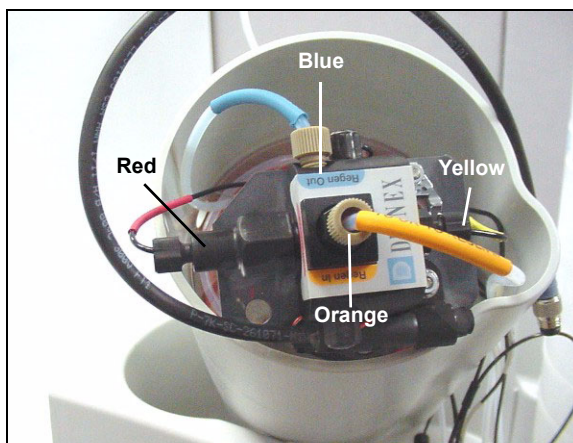

Figure 30. Plumbed CR-TC
4. With the CR-TC oriented as shown in Figure 30, connect the lines to the corresponding ports on the CR-TC. Match the color coded labels on the EGC holder lines to the color coded labels for the CR-TC ports.